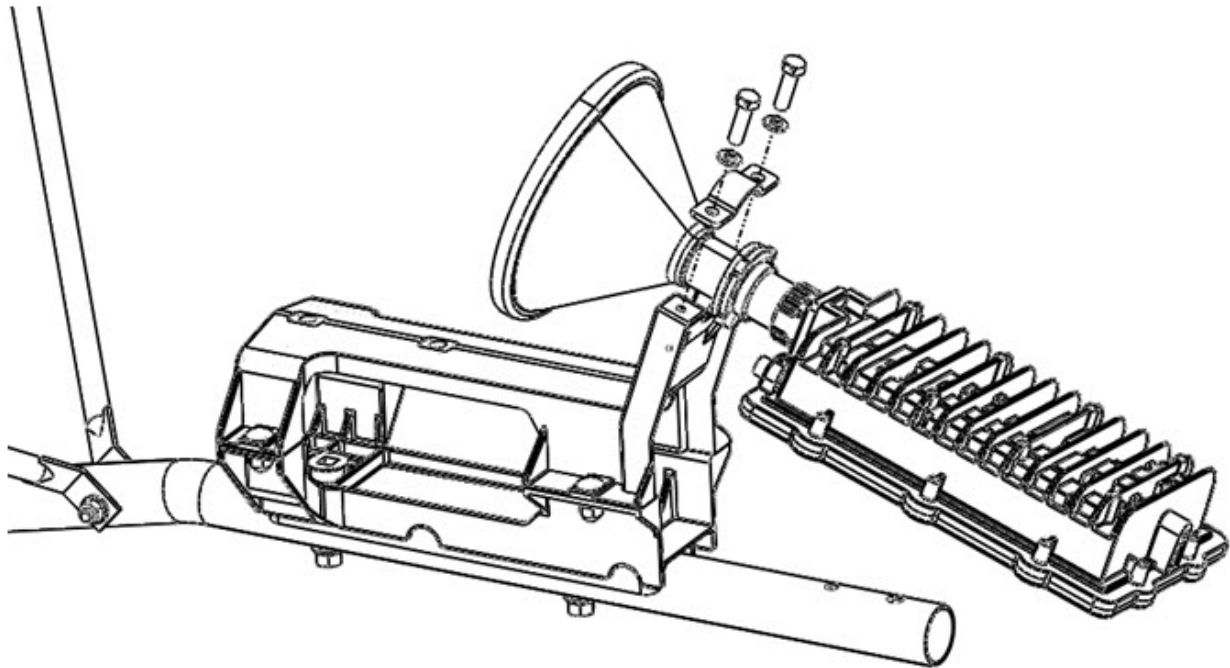

Figure 17: Mounting the pure-type universal radio on the feed support arm
Place the feed horn into the cradle of the top bracket, as shown in Figure 17.
13. Align the top bracket and install the two  $\frac{1}{4}$ " hex bolts, as shown in Figure 17.